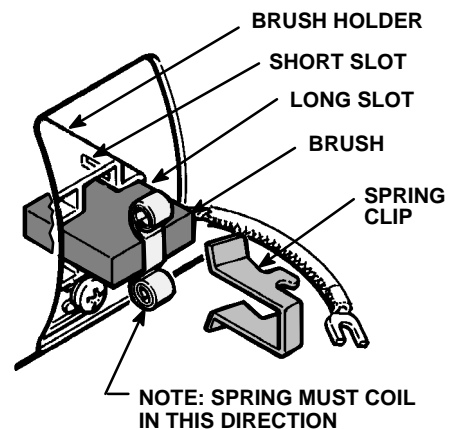

Fig 23-4
5. Install a new brush so the lead is in the long slot of the holder. Slide the terminal under the terminal screw washer. Ensure the motor lead is still connected at the screw. See Fig 23-4.
6. Place the spring on the brush as shown in Fig 23-4.
7. Install the spring clip and push it down to hook it in the housing. See Fig 23-4.